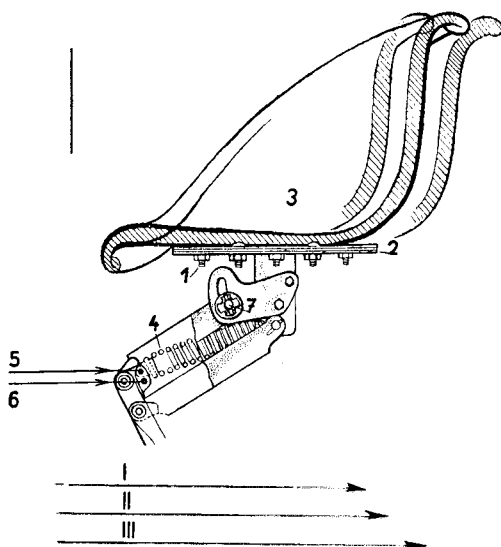

Fig. 22
The seat is well sprung and can be adjusted in accordance with the weight and figure of the driver (Fig. 22). The distance of the seat from the steering wheel can be changed by loosening the nut (1) on the base plate (2) and shifting the seat (3) to the chosen positions: I, II, III. Springing rigidity — it is necessary to fasten the spring 4 in the hole 5 for a heavier driver, for a lighter driver as well for permanent driving on good roadways it is necessary to fasten the spring in the hole 6. Damping of vibrations — the more uneven the field, the more vibrations of the seat must be damped, i. e., by tightening or loosening the wing nut (7).